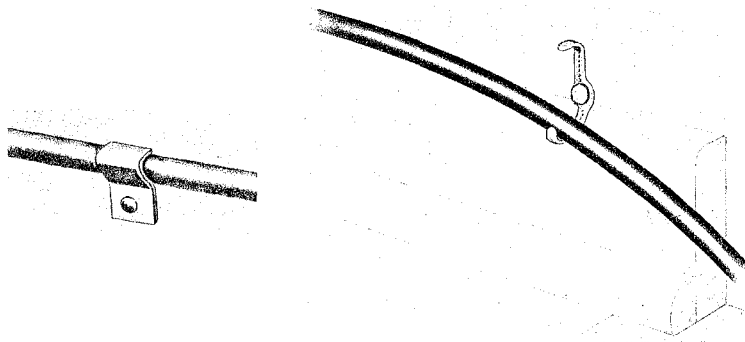

Fig. 1 — Cable Clamp and Cable Clasp
3.02 A cable clamp and a cable clasp are shown in Fig. 1. Table A indicates the fasteners to be used to attach cable clamps and cable clasps to various surfaces.